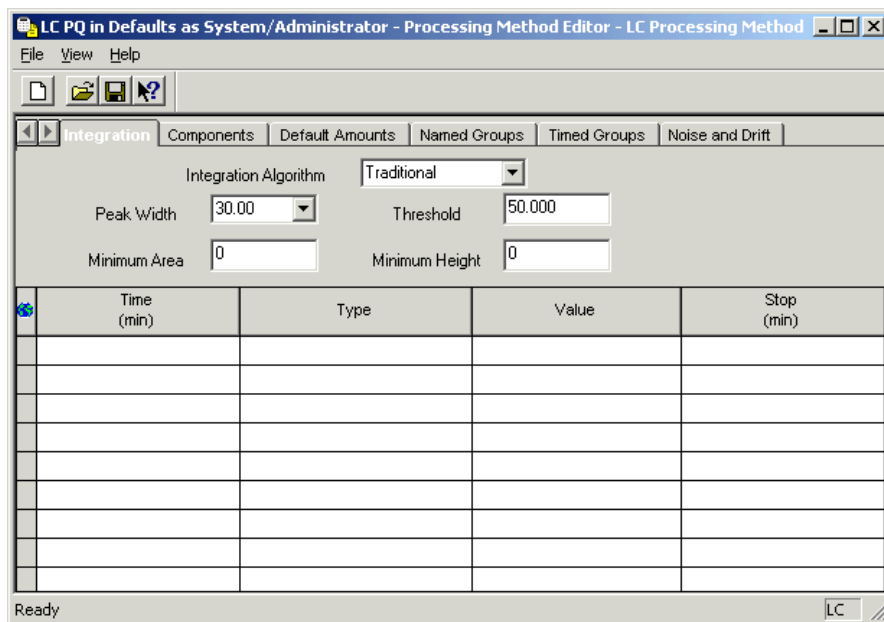

Figure C-8 Traditional Parameters in the Integration Tab
1. Open the project, then double-click the processing method to open it. The Integration tab of the selected processing method appears (Figure C-8).
2. Select **Traditional** from the Integration Algorithm list. The appropriate parameters appear in the Integration tab (Figure C-8).